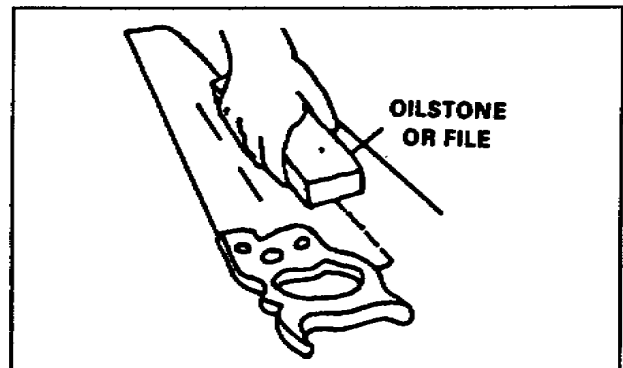

Figure 2-16. Side-dressing a saw
(5) Side-Dressing. After you file the saw, lay it flat on a board and run the flat side of the file gently along the side of the teeth. Turn the saw over and repeat the operation on the other side. This is called *side-dressing*. No setting may be needed for the next two or three filings. In this case, side-dress with an oilstone to remove the burrs (Figure 2-16).